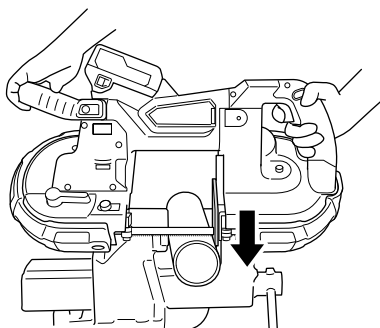

Fig. 19
- (5) Pull the switch and cut (**Fig. 19**)